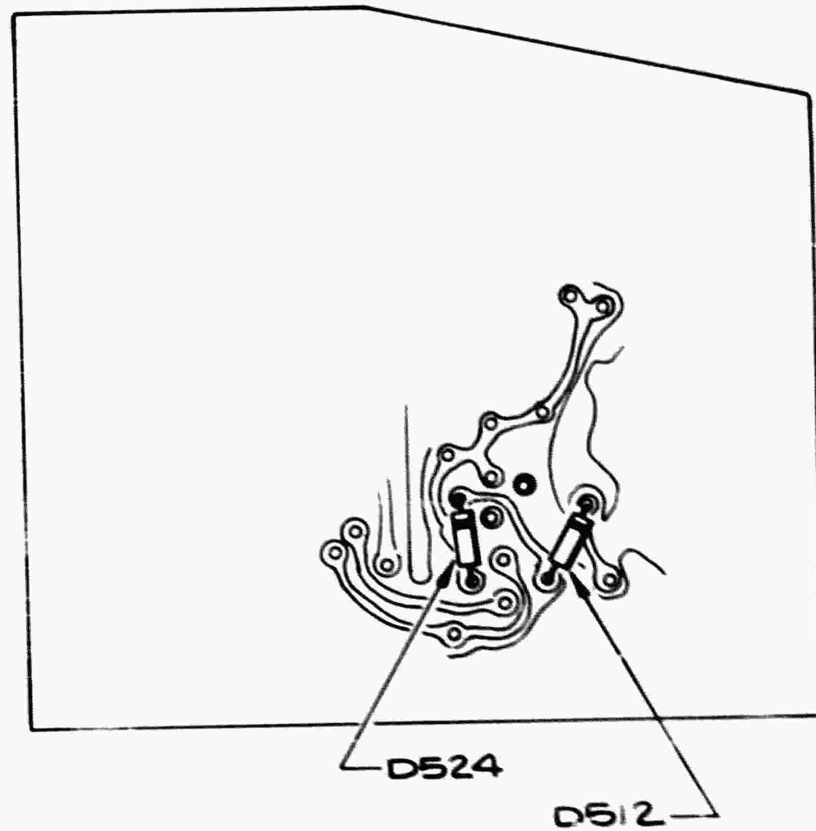

FIG. 2
- Install D512 (removed in step a) between the emitter and base of Q513 as shown in Fig. 2.
- Install D524, a 6233 diode, between the base and collector of Q524 as shown in Fig. 2.